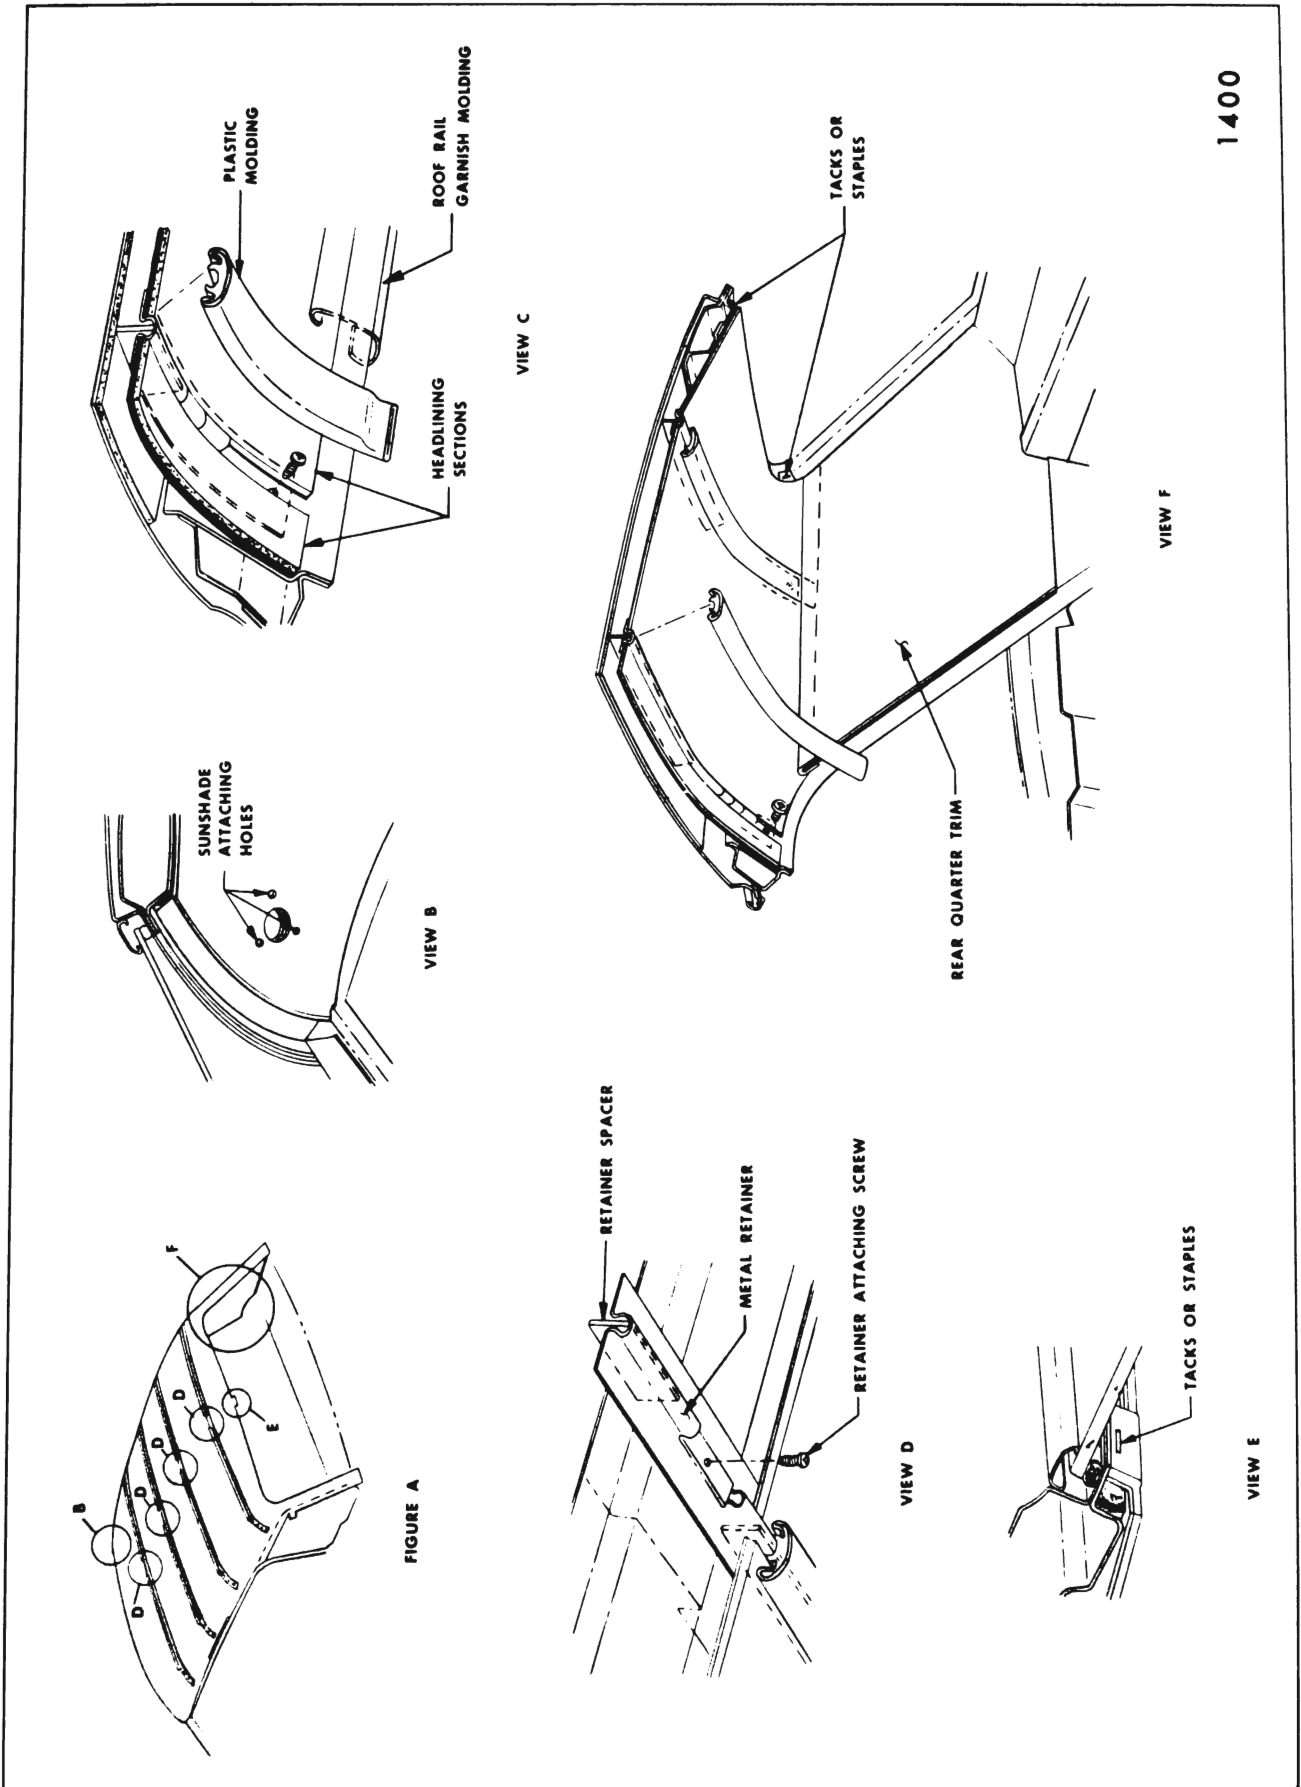

Fig. 11-6—Flocked Headlining Installation
3. With flat-bladed tool, carefully pry one end of plastic molding from retainer and remove (View "C", Fig. 11-6). Remove plastic moldings from both retainers securing section of headlining being removed.
- When retainers are required to be removed, remove screws securing retainer to roof (View "D", Fig. 11-6). Retainer spacers are installed between the metal retainers and roof (View "D", Fig. 11-6).
- If retainers were removed, make certain that retainer spacer shown in View "D", of Figure 11-6 is installed prior to installing retainers.
- Install headlining sections by positioning one edge in retainer and centering section in relation to other sections and side roof rails; then carefully snap remaining edge in other retainer. Snap plastic molding over retainers (View "C", Fig. 11-6).
tainer. Center and align section in relation to side roof rails and back window opening and stay tack section in place. Recheck alignment; then starting at center of back window area, permanently tack section to tacking strips at back window opening (View "F", Fig. 11-6).
- If installing front section of headlining assembly, position appropriate edge in retainer. Center headlining section in relation to other sections, side roof rails, and sunshade support attaching holes (View "B", Fig. 11-6). Install sunshade supports.